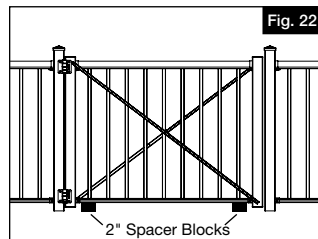

Fig. 22
- Flip rail over. Repeat instructions 7a–7d, being sure to install second brace on opposite side of gate, and opposite orientation of brace making an "X" (Fig. 22).
- Place two 2" tall wood blocks (not included) under the bottom rail of the gate. Align gate between the posts (Fig. 22).